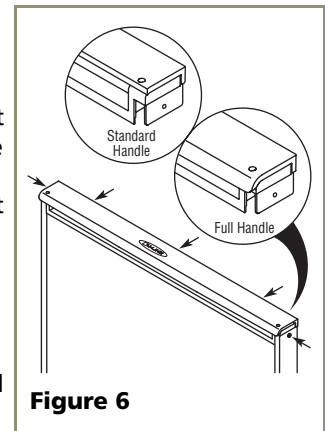

Figure 6
2. Remove and save the two outside screws (see **Figure 6**).